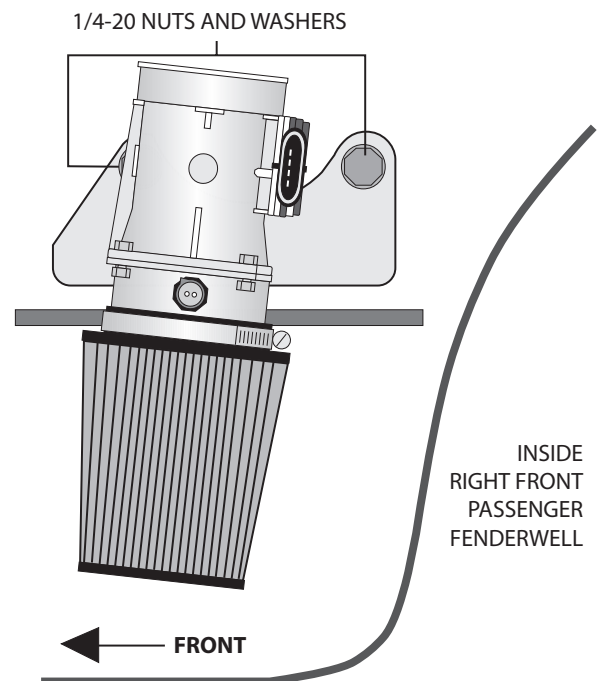

Fig. 12-a
- E. Remove the two 1/4-20 washers and nuts from the right lower fender valance and mount the MAF bracket on the existing studs using the same washers and nuts to fasten to the inner fender. (See Fig. 12-a.)